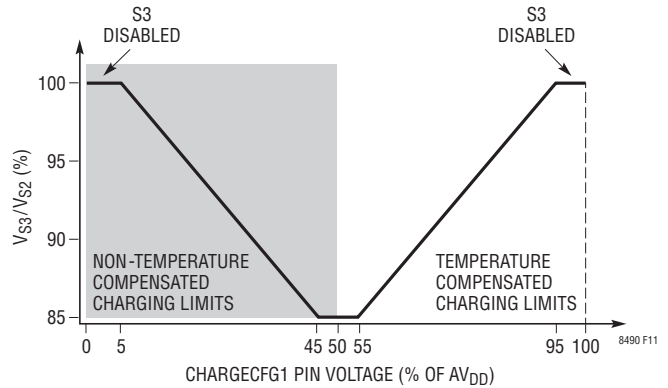
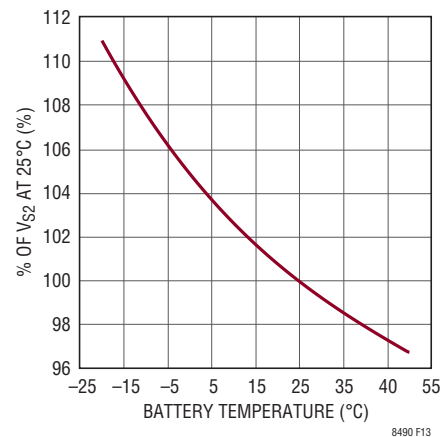

Figure 11. CHARGECFG1 Pin Configuration
Figure 13. Stage 2 Voltage Limit vs Temperature When Temperature Compensation Is Enabled
The Stage 2 voltage limit ( $V_{S2}$ ) is the maximum battery charging voltage. The voltage limits for Stages 0, 1 and 3 are all related to the Stage 2 limit as shown in Table 3 and Figure 11. If temperature compensated charging is enabled, then  $V_{S2}$  will change with temperature as shown in Figure 13. As such, the limits for the other stages will also change with temperature since they are a constant proportion of  $V_{S2}$ .
The CHARGECFG1 pin is a multifunctional pin as shown in Figure 11. Set this pin using a resistor divider totaling no less than 100k $\Omega$  to the  $AV_{DD}$  pin (see the Typical Applications section for examples). The voltage on CHARGECFG1, as a percentage of  $AV_{DD}$ , makes the selections discussed below. Avoid setting the divider ratio directly at any of the inflection points on Figure 11 (e.g. 5%, 45%, 50%, 55% or 95%)
2. **BATTERY VOLTAGE TEMPERATURE COMPENSATION:** Some battery chemistries charge best when the voltage limit is adjusted with battery temperature. Lead-acid batteries, in particular, experience a significant change in the ideal charging voltage as temperature changes. If enabled with the CHARGECFG1 pin, the battery charging voltage and all related voltage thresholds are automatically adjusted with battery temperature. As the voltage on the TEMPSENSE pin changes, the PWM duty cycle from the FBOW pin changes such that the voltage limits of the LT8490 follow the curve shown in Figure 13.